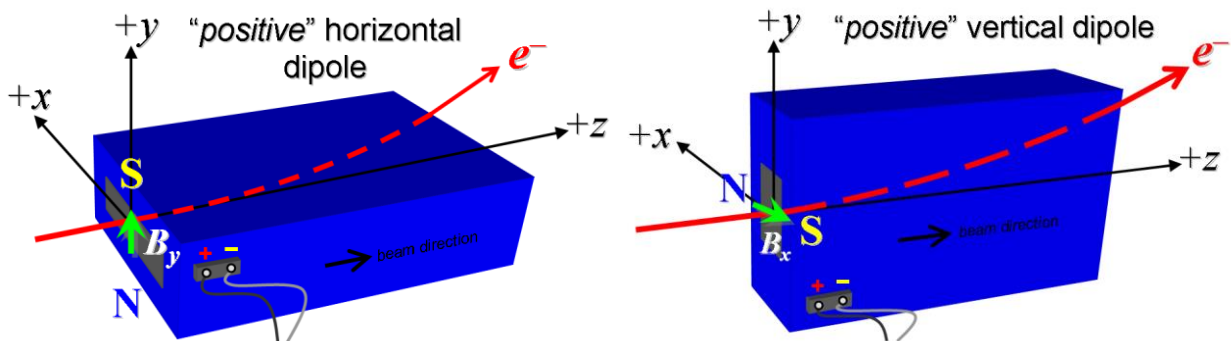

Figure 1. BRCUS1 is “positive” polarity (bending electrons left).
Polarity is marked according to Fig. 1 (initials):	P
Trim coil polarity chosen from Fig. 1 is (P):	P